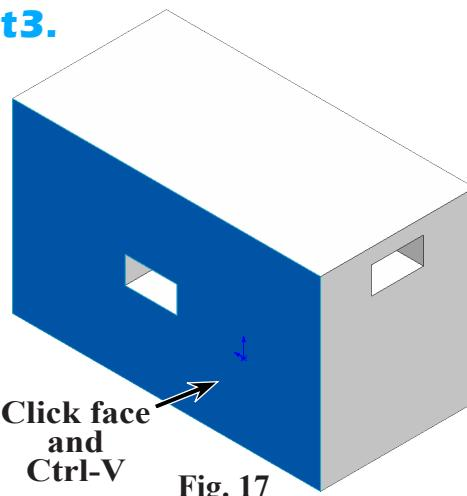

Fig. 17
Step 2. Rotate view to **left side face**, Fig. 17. To rotate view, **Shift click the Y axis of the Reference Triad three times**.
Step 3. Again paste **Cut-Extrude1** on side face. Click **side face and Ctrl-V**, Fig. 17.